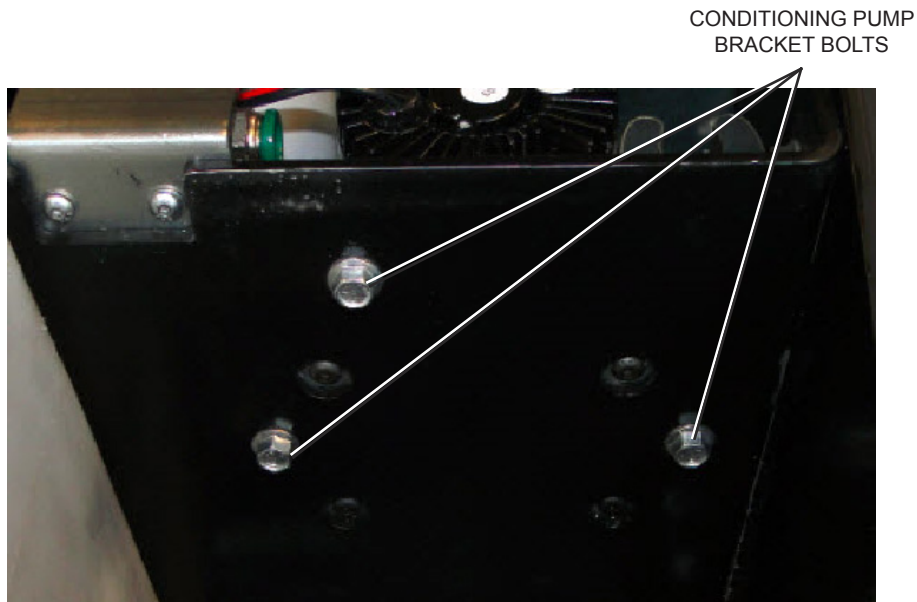

Figure 2
4. Remove the three conditioning pump bracket bolts located on the outside wall next to the waste tank. Refer to *Figure 2*.